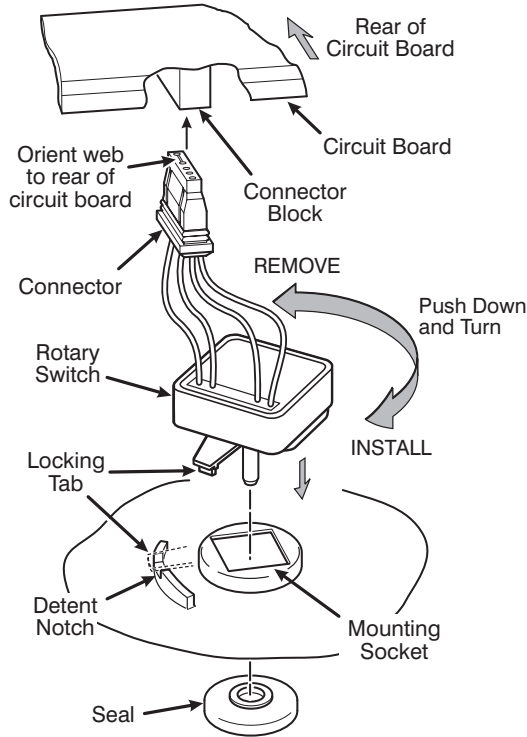

Figure 7
8. Remove (5) circuit board mounting screws. Raise near edge of circuit board. See Figure 7 and lift locking tab on each rotary switch, turning switch 45° counterclockwise, and
1. Install each rotary switch by first orienting switch as shown in Figure 7. Insert switch into mounting socket in control panel, then turn it clockwise until locking tab engages detent notch.